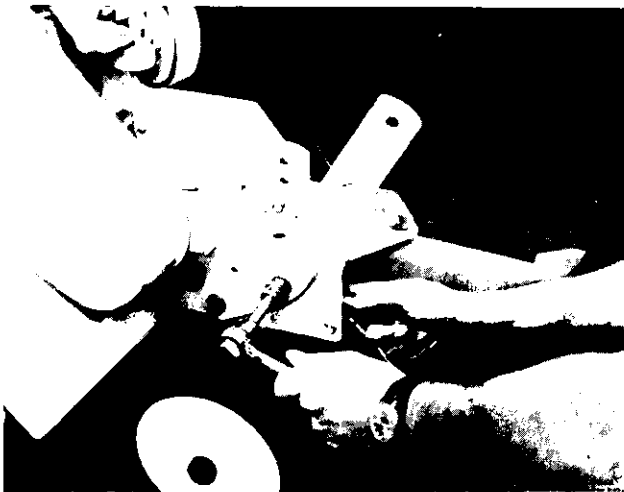

FIGURE 6.
Secure handle mount brackets with hex bolt (M), belleville washer (N), lockwasher (O) and hex nut (P). See figure 6.